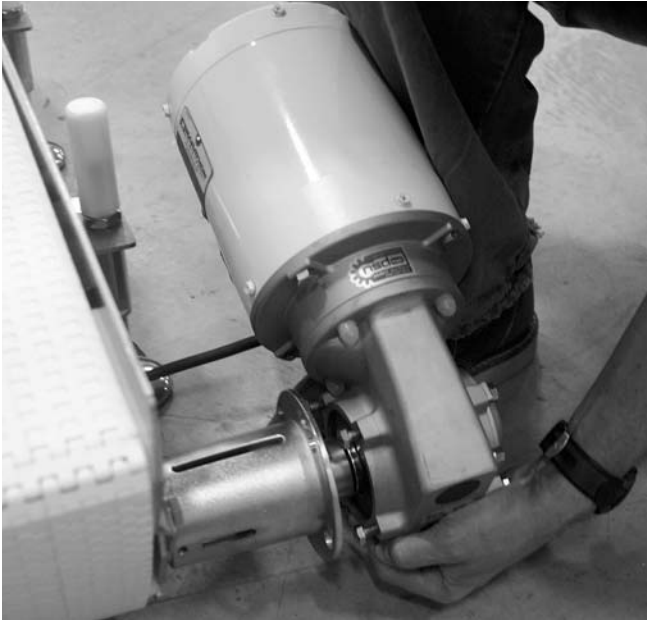

Figure 13
- b. Rotate and remove gearmotor and gear reducer assembly from motor mount (**Figure 13**).